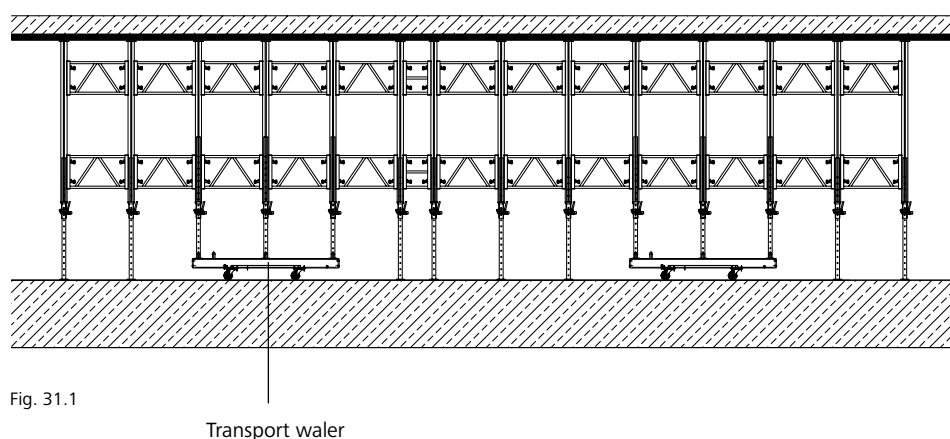

Fig. 31.1
4. Pull the props down to the transport walers and attach them with pins (Fig. 31.1).
The transport unit shown in figures 31.1 through 31.3 weighs 5,4 tons including slab form-work. The 4 transport walers used for this unit can support a total weight of 12 tons (4 times 3 tons).